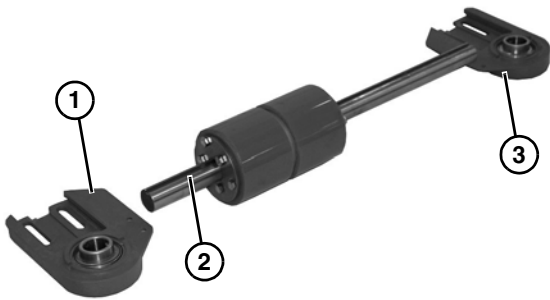

Figure 40
- Slide the head plate with bearing (Figure 40, item 1) off the shaft (Figure 40, item 2).
- Repeat for opposite side head plate (Figure 40, item 3).